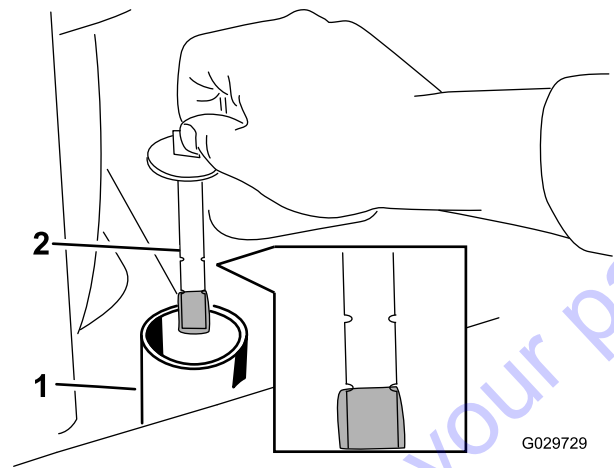

Figure 73
6. Remove the hydraulic-tank cap and dipstick (Figure 73).